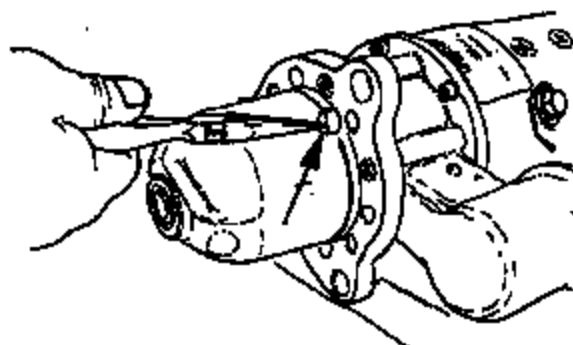

Figure 6 - Installing Rubber Seal (Arrow)
10. Remove the rubber seals from the old nose cone and install into the unused bolt holes in the new nose cone (Figure 6).